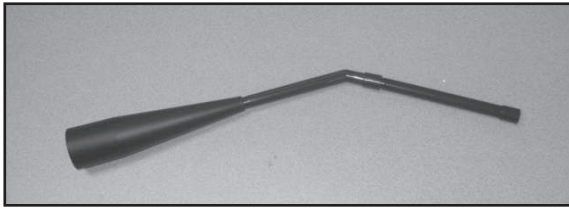

Figure 36.1
- c. Assemble the crevice tool from the micro cleaning kit to attach to a Shop Vac. **Figure 36.1.**